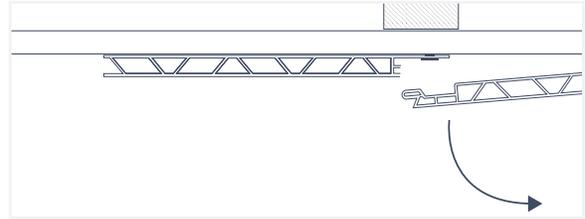

Fig. 41
5. Now, tilt the adjacent panel out of the way and remove the screws from the damaged panel (Fig. 41). [next page]